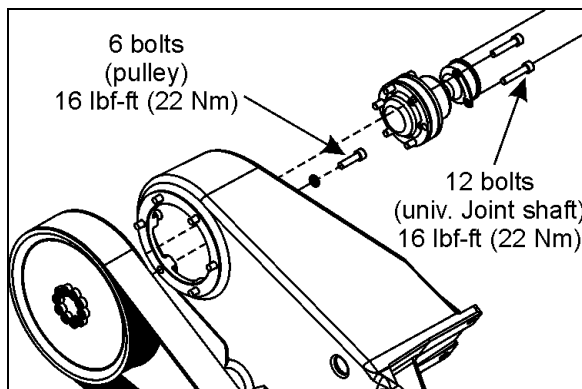

FIGURE 23: TIGHTENING SPECIFICATION
2. Dismount the drive pulley. Gain access to the 6 mounting bolts from behind the pulley, through the opening in the cast aluminum support (Fig. 23).
3. Unscrew and remove the universal joint shaft mounting bolts (6) at the right angle gearbox.